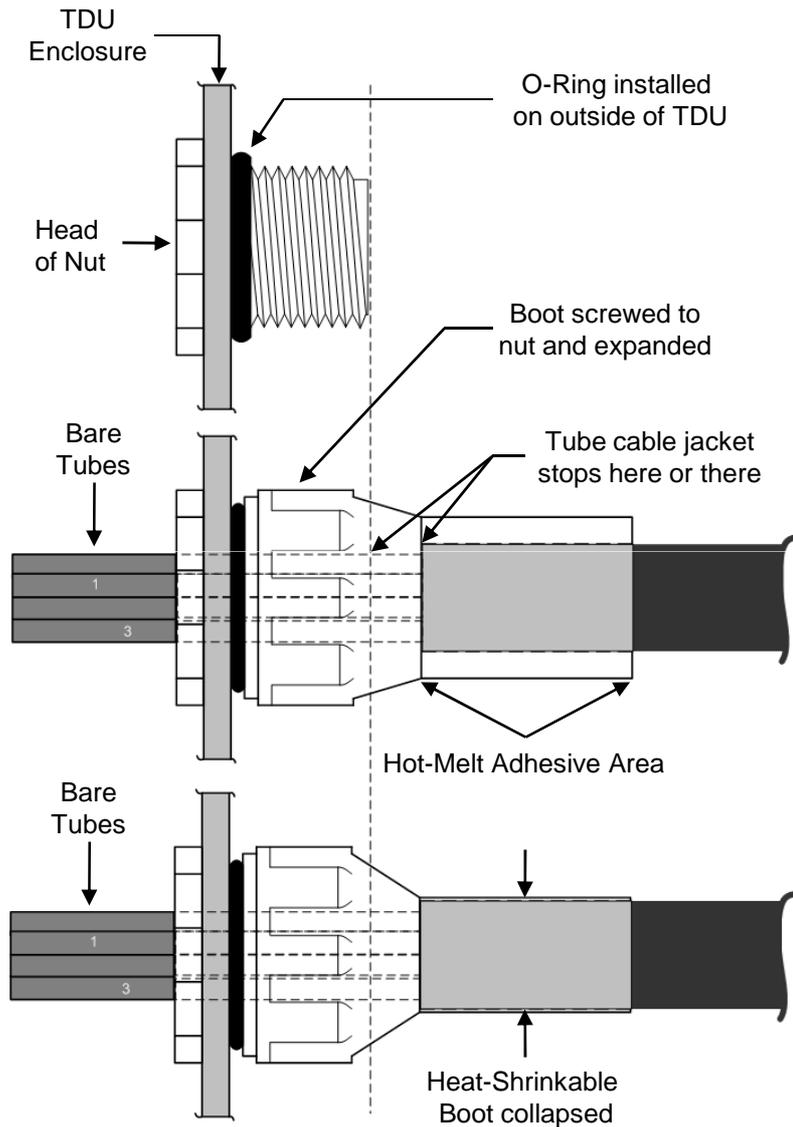

Figure 5
8.7 Insert tubes / tube cable into CES until larger diameter tube cable jacket contacts smaller boot / nut opening. *Do not try to force tube cable through these openings. Stop when contact is made.* **See Fig. 5.**